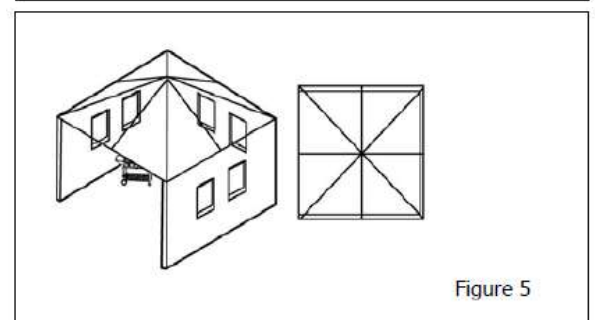

Figure 5
- 30% or more in total of the remaining wall area is open and unrestricted. (Figure 5)